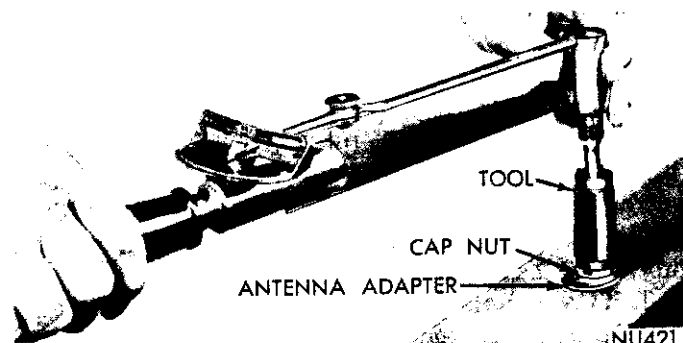

Fig. 6—Tightening Antenna Capnut
- (4) Install inner fender shield and attaching screws.
- (5) Install antenna mast into antenna body until sleeve bottoms on antenna body.
(6) Reroute antenna lead through hole in dash panel and behind fresh air duct hose to radio receiver (Fig. 6).